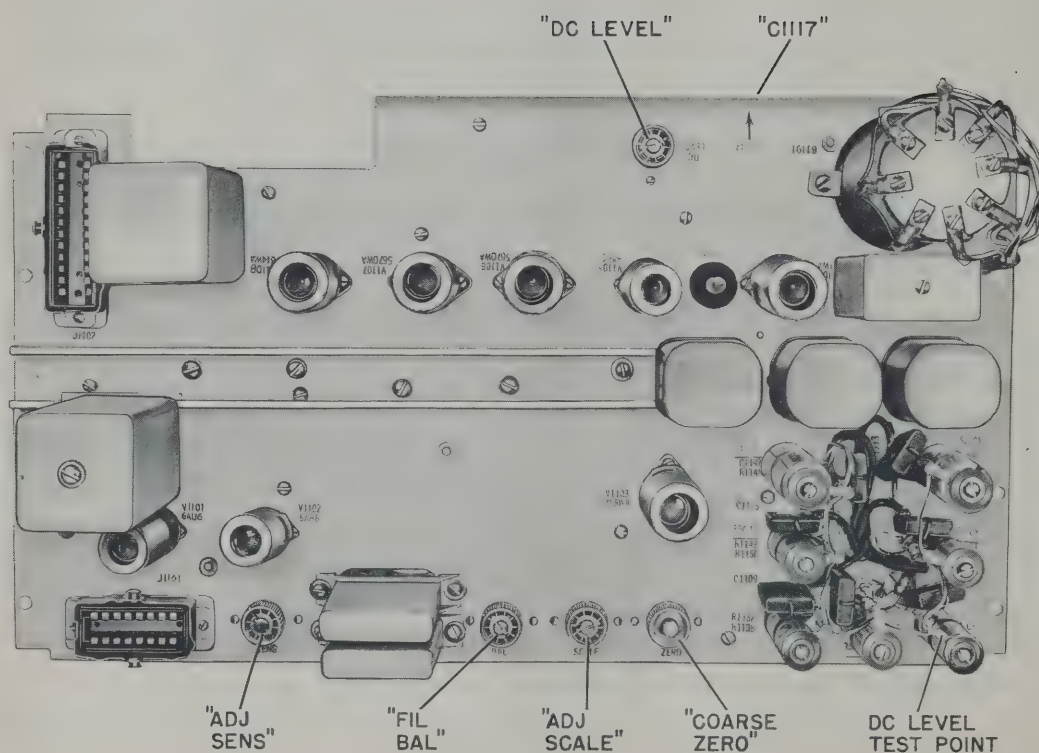

Figure 4-2. Top View of G-234543 Oscillator-Amplifier
If may be necessary to use the "COARSE ZERO" control (figure 4-2) if the pointer is off scale.
f. Push the "ADJUST ZERO" button of the test set and check that the meter deflects to the "ADJUST LEVEL" line. If it does not, readjust the "ADJ SCALE" control (R1126 on the oscillator amplifier panel, figure 4-2.) so that it coincides with the "ADJUST LEVEL" line.
- d. Set the "ADJUST" control knob approximately to mid-rotation. There should be a voltage at the binding posts of 400 ± 1 cycles, as measured by the frequency counter (table 3-1). If a counter is not available, proceed according to the note following step h. If necessary, adjust C1117 on the oscillator panel (figure 4-2 or 4-3) so that this requirement is met.
- e. Attach the DC vacuum tube voltmeter (table 3-1) to the DC level test point at the common end connection of the frequency determining resistors R1137, R1139, etc., on the oscillator amplifier panel (figure 4-2). The DC voltage should be 0 ± 0.5 volt. If necessary, adjust the "DC LEVEL" control (figure 4-2) to meet this requirement. The pointer of the "DC LEVEL" control should be between 3 and 9.
- a. Set the "V-M" switch to "ACVM 1.0", set the "OSC FREQ" switch to "350", and check that the "L-C" switch is at "CLUTCH 2 AC". Connect an AC voltmeter to the binding posts, and adjust the "ADJUST" control knob to set the AC level exactly to the "ADJUST LEVEL" line. The external voltmeter should read $1 \text{ MV} \pm 0.1$. If it does not, readjust the "ADJ SENS" control (figure 4-2) on the oscillator amplifier panel.